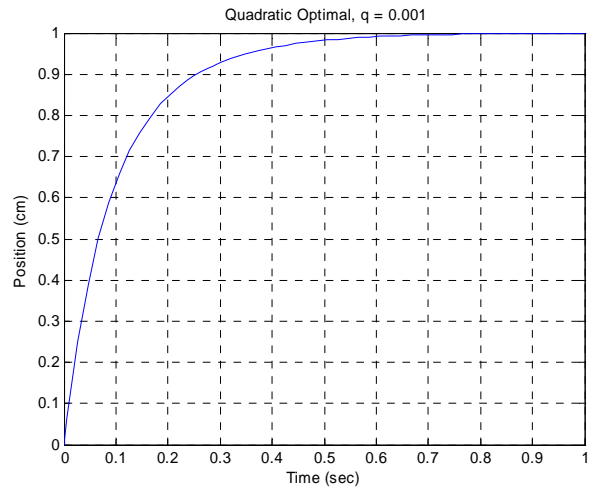

Figure 3. Step response of the new plant with the type 1 controller (Problem 2, part d)
d) Now simulate this system (plant from part c) with a unit step input using the controller and prefilter from part (b). You should get results like those in Figure 3. Turn in your graph.